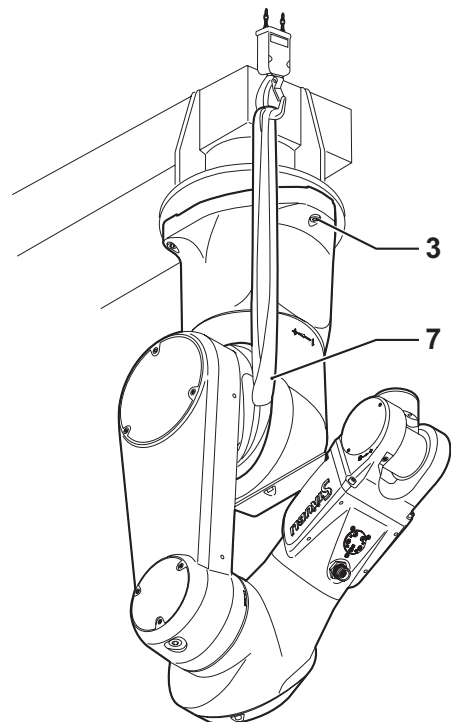

Figure 3.5
3.4.2. INSTALLATION OF ARM ON CEILING (figure 3.5)
- Place the fabric sling **(7)** around joint 2 as shown on figure 3.5.